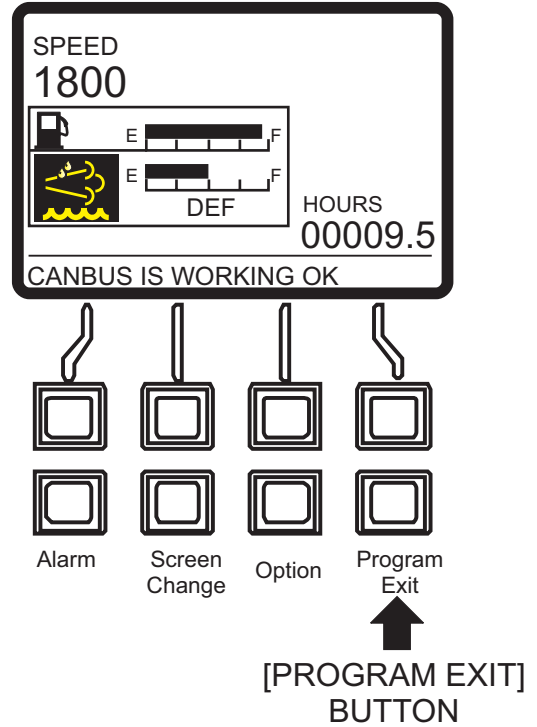

Figure 94. Main Screen
3. Press the [Program/Exit] button (Figure 94) to enter the Main Menu.